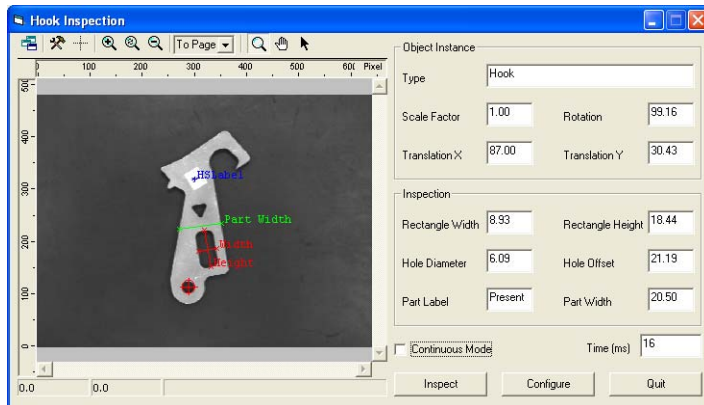

Figure 6 Hook Inspection Interface
- Run the application then, in the Hook Inspection interface, click the **Inspect** button to launch a first execution. See Figure 6.